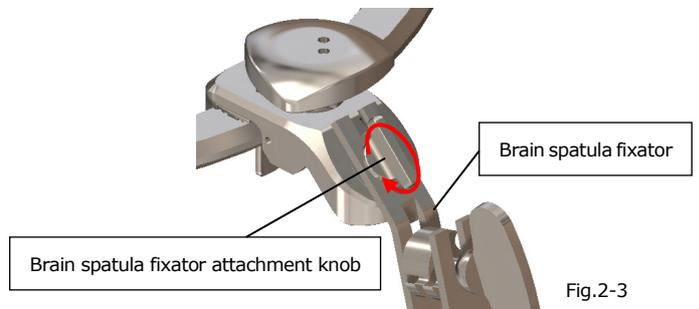

Fig.2-3
(2)-5 Rotate the brain spatula fixator attachment knob clockwise to fix the brain spatula fixator (Fig.2-3).